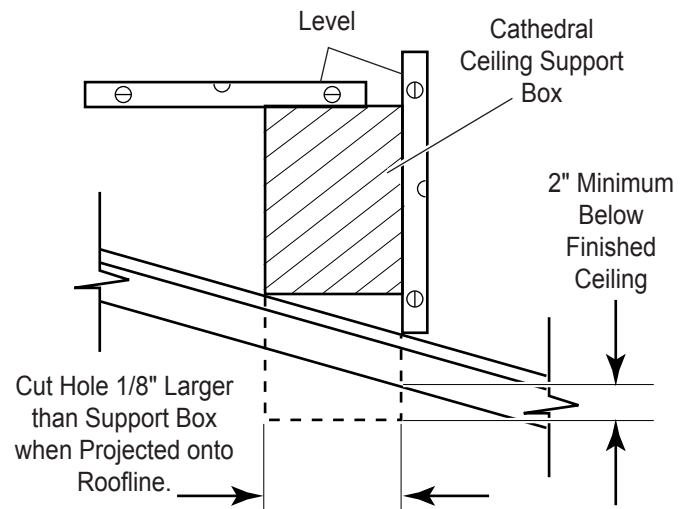

Figure 30 - Cathedral Ceiling Support Box Installation
2. Cut the hole  $\frac{1}{8}$ " larger than the support box outline. See Figure 30.
3. Lower the support box through the hole in the roof until the bottom of the box extends at least 2" (51 mm) below the ceiling. See Figure 30. Align the support box vertically and horizontally using a level. Temporarily tack the support box in place through the inside walls and into the roof sheathing.